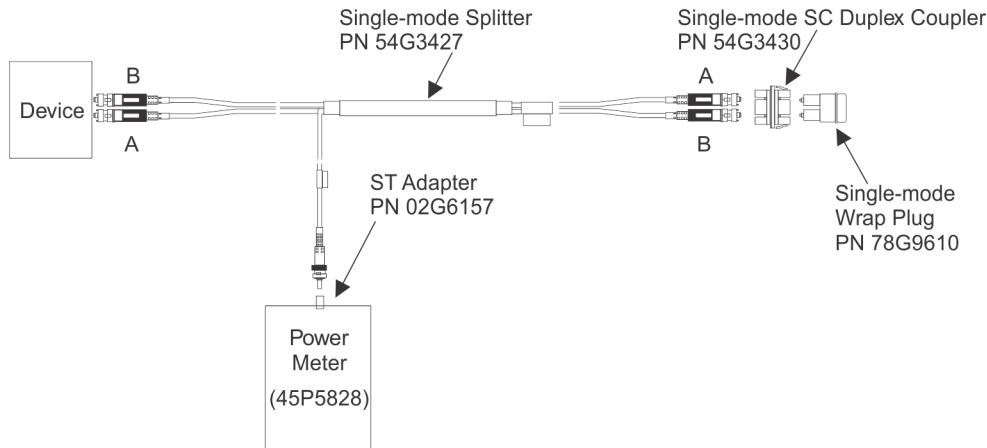

Figure 80. Measuring device transmitter levels for a single-mode coupling link
- If the wrap test completes successfully, insert the optical splitter tool (part number 54G3427). Attach the splitter connector marked "DEVICE TO BE MEASURED" into the optical transceiver and connect the rest of the test equipment (see Figure 80 on page 79).